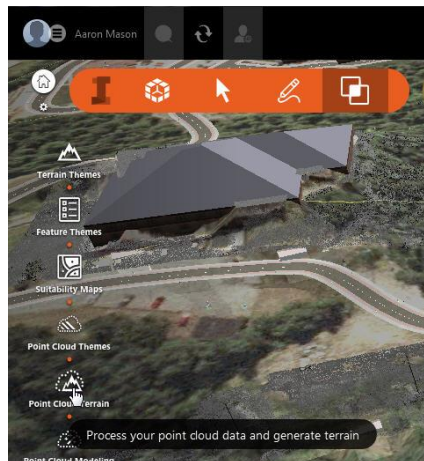

Figure 20: Point Cloud Terrain Generation
- Go to the Point Cloud Terrain button (Figure 20)